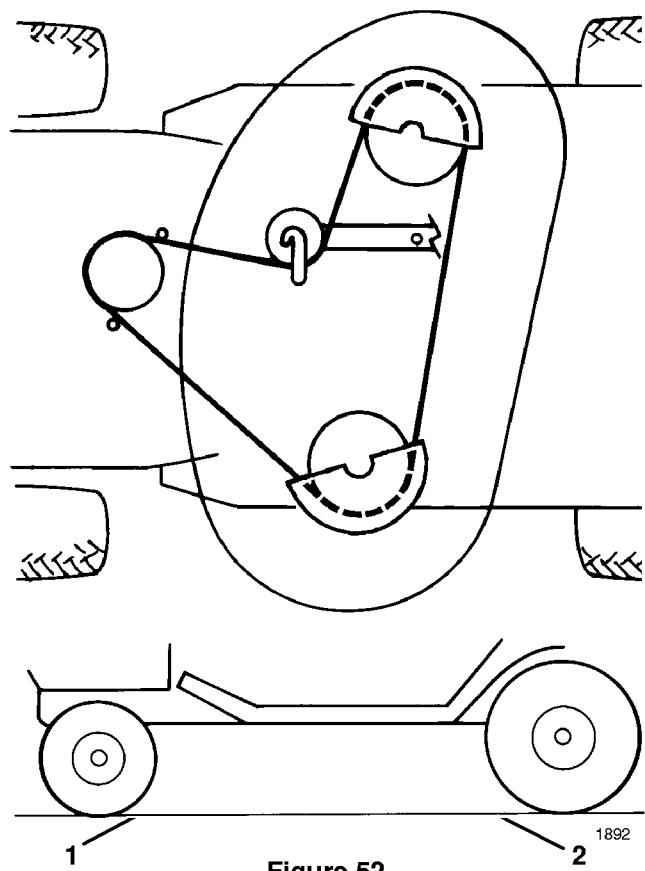

Figure 52
4. Check the front to rear slope by measuring between the bottom of the mower (front center and rear center) and the flat surface (Fig. 52). If the front of the mower is more than $3/16"$ (4.7 mm) lower than the rear of the mower, an adjustment is required.